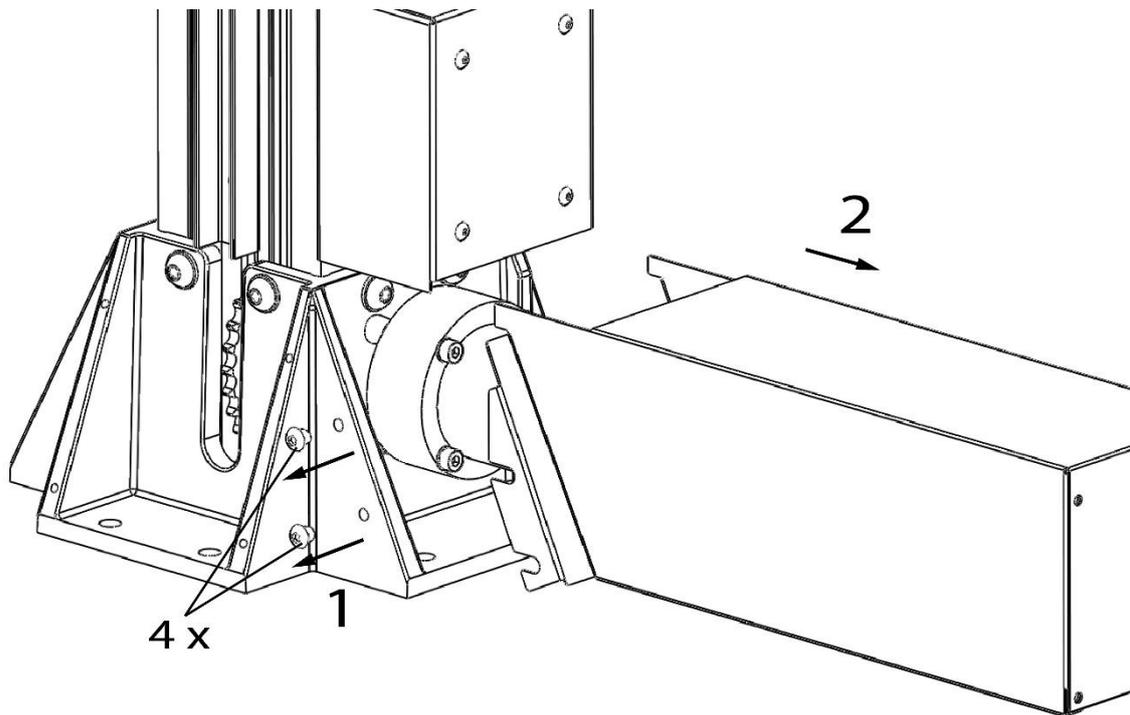

Figure 3: Removal of motor cover
6. Unscrew the four M6 screws holding the motor cover and slide the motor cover off (**figure 3**).